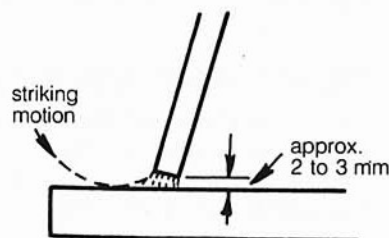

Figure 18 Striking the arc
- 5 Strike the arc by scraping the electrode gently on the work with a circular motion, withdrawing it about 2 to 3 mm. (Fig. 18.) Too short an arc causes sticking and a rough surface on the weld. Too long an arc results in reduced penetration, spatter, and rough surface. A simple rule for proper arc length is—use the shortest arc that will give a good surface to the weld.